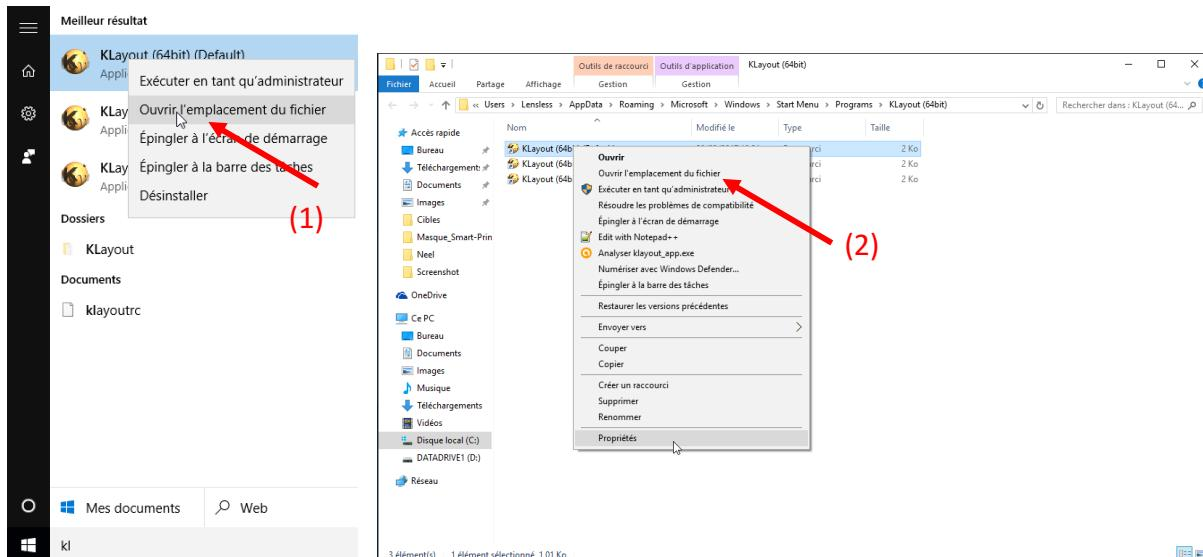

Figure 72 – Finding the file path of KLayout executable file, step (1) and (2)
- In the Windows menu or search window, right-click on the icon of **KLayout (default)** and select **Open the file's location** (Figure 72(1)). It will open a window containing all KLayout shortcut
- Right-click on the **Klayout (Default) shortcut** → **Open the file's location** (Figure 72(2)). The window containing the executable will open